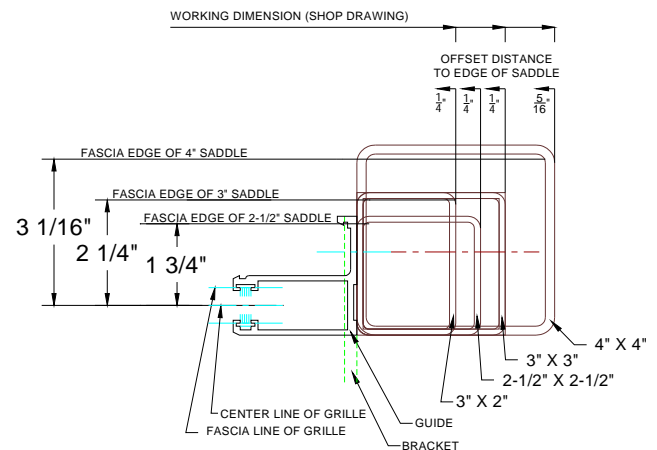

Fig. 5
5. On the jamb or floor there should now be intersecting marks that indicate the centerline of the grille and the outer edges of the tubes. Using Fig. 5 as a reference, mark the outside and fascia side edges of the saddle.